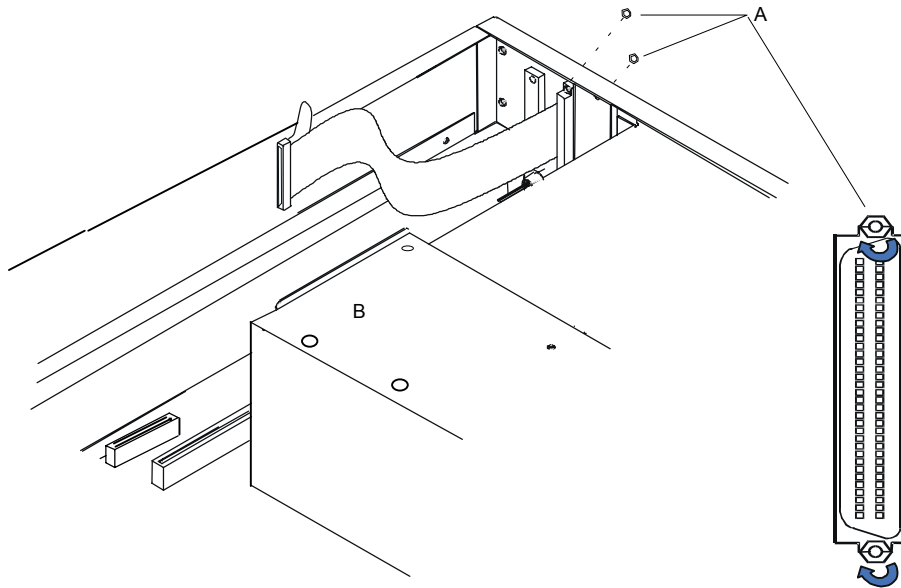

Figure 4-77. Installing the Internal SCSI Cable
- 14.** Connect the internal SCSI cable to the cabinet. Position the cable's connector inside the cabinet at the position from which the dummy cover was removed. Ensure the connector is positioned in the same direction as the internal SCSI cable already mounted. Secure the connector with the two hex-nuts supplied. See Figure 4-77, A.